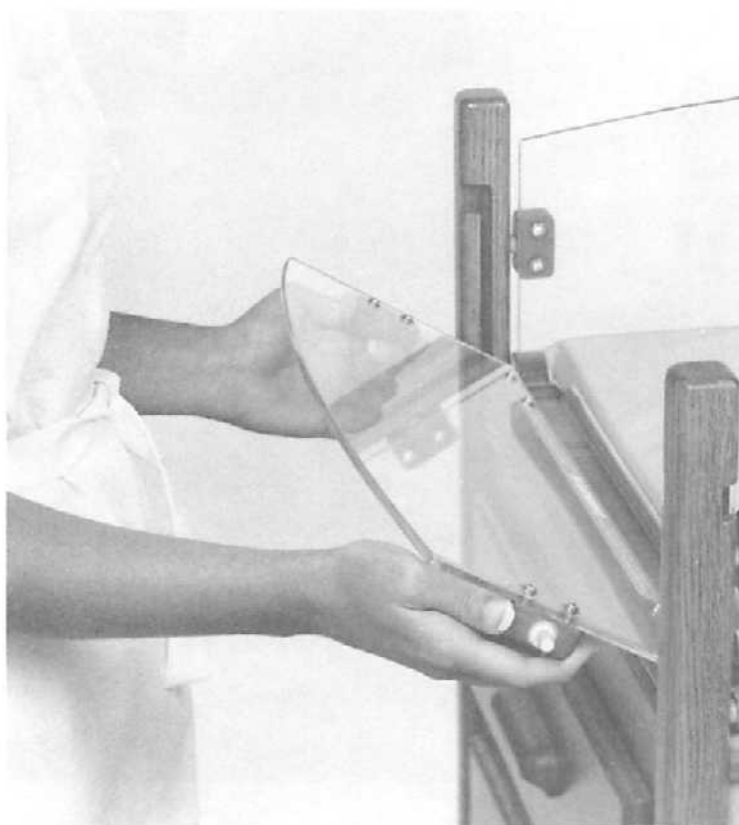

FIGURE 2.8 CHECKING SIDE AND END PANELS OF BASSINET
- A. CHECK THE SIDE AND END PANELS (Figure 2.8) of the Bassinet. Raise each panel and pivot it to hang straight down. Return the panel to the original position by reversing the procedure. Check that all panels are positively engaged to confine the infant.